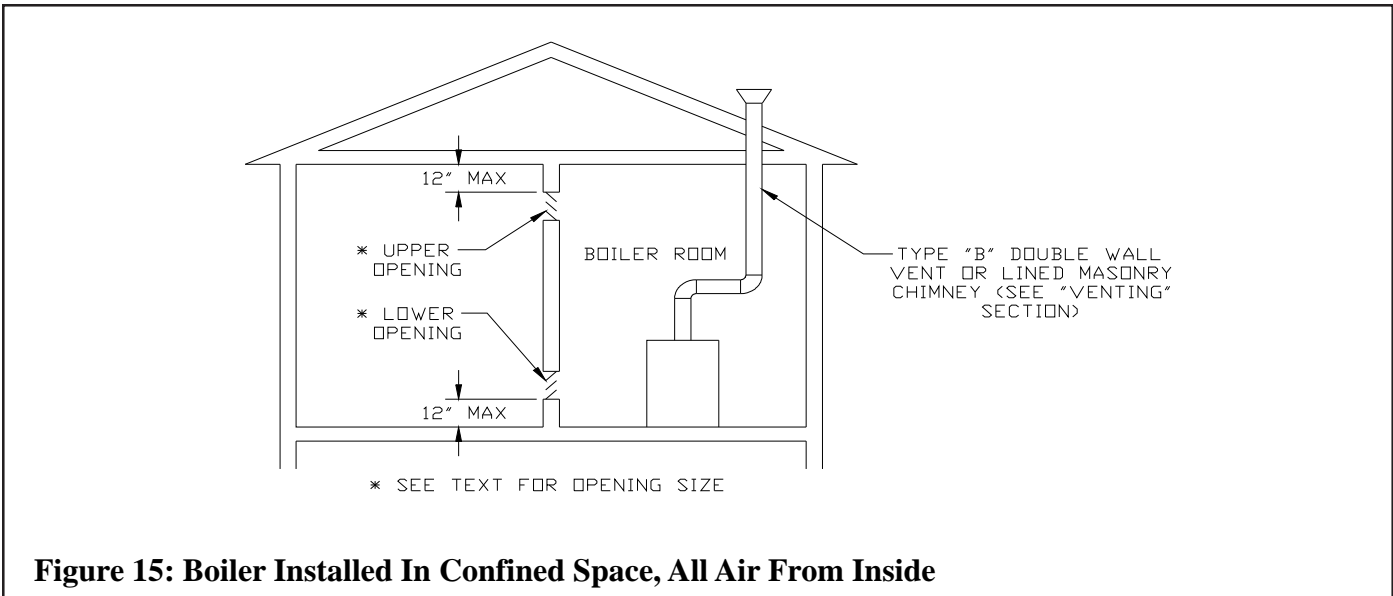

Figure 15: Boiler Installed In Confined Space, All Air From Inside
- 2) **Confined space** - Provide two openings into the boiler room, one near the floor and one near the ceiling. The top edge of the upper opening must be within 12" of the ceiling and the bottom edge of the lower opening must be within 12" of the floor. See Figure 15.